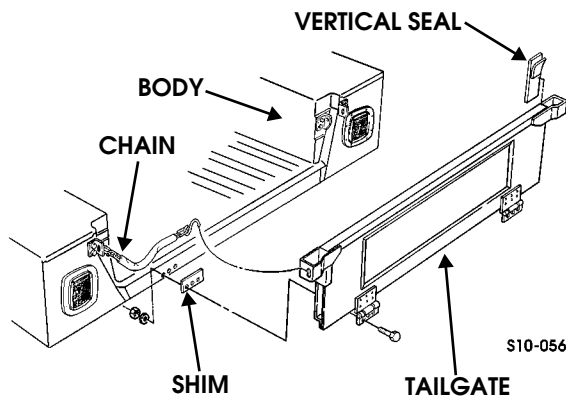

Figure 10-149: Tailgate and Seals Replacement
1. Remove six locknuts, washers, and bolts securing tailgate to body (Figure 10-149).
5. Remove paper backing from two vertical seals and install seals on tailgate (Figure 10-149).